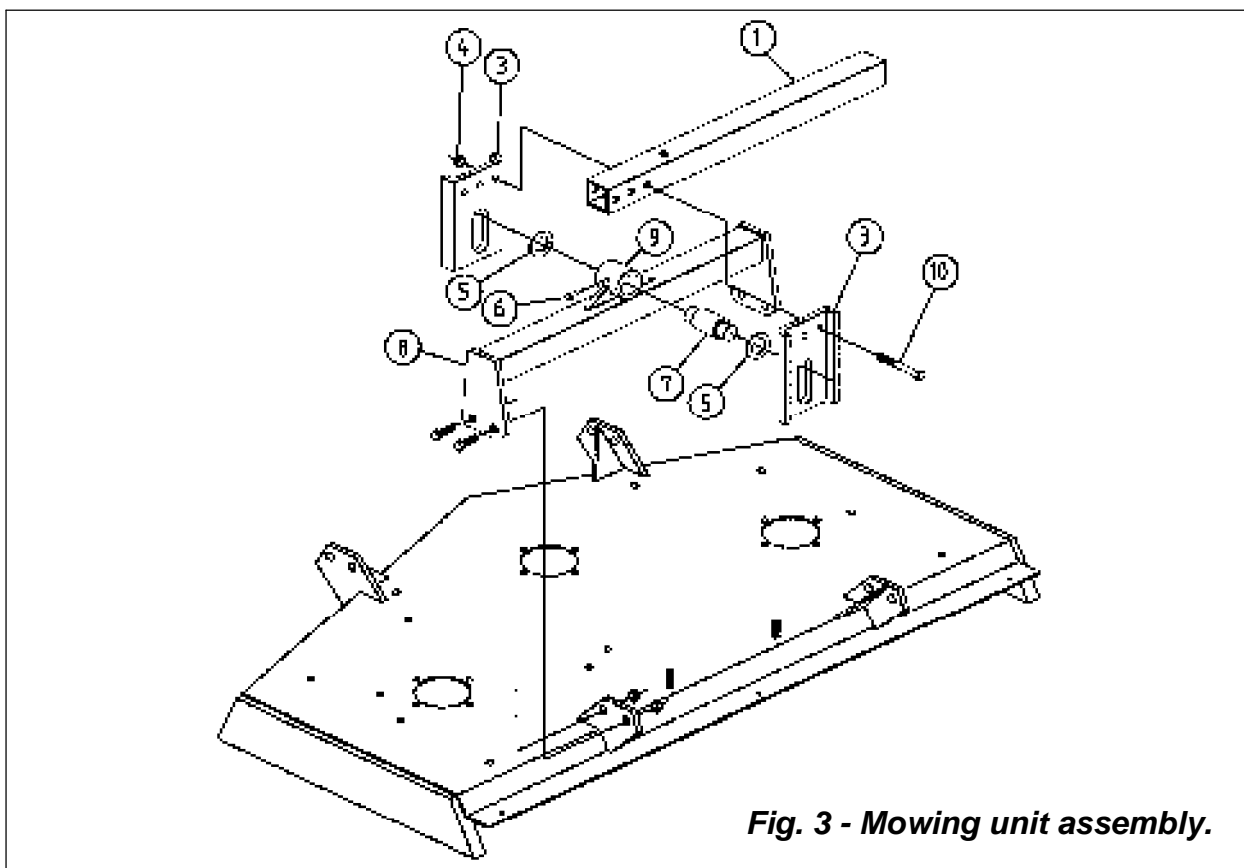

Fig. 3 - Mowing unit assembly.
1. position the decks complete with hitches (**see #8, fig. 3**) near the telescopic wing arms (**see #1, fig. 3**) which are bolted into the lift arms.
2. Insert the attaching pin (**see #7, fig. 3**) into the tube welded to the hitch (**see #9, fig. 3**). Place the shim washers (**see #5, fig. 3**) on either end of the attaching pin.
3. Place the two formed plates (**see #3, fig. 3**) on either end of the attaching pin (**see #7, fig. 3**) with the bend facing outward.
4. With the wing arms down level with the mower decks, position the telescopic wing arms (see #1, fig. 3) between the two formed plates (see #3, fig. 3). Attach them the bolts (see #10, fig. 3) provided.
5. Tighten the nuts (see #4, fig. 3) and bolts (see #10, fig. 3). Ensure after tightening, that the formed plates (see #3, fig. 3) move freely up and down over the attaching pin (see #7, fig. 3).
6. Using the grease fitting on the hitch (see #6, fig. 3), grease the attaching pin and formed plate.